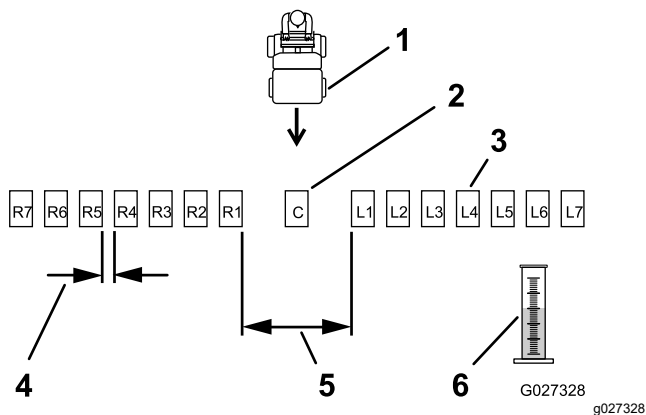
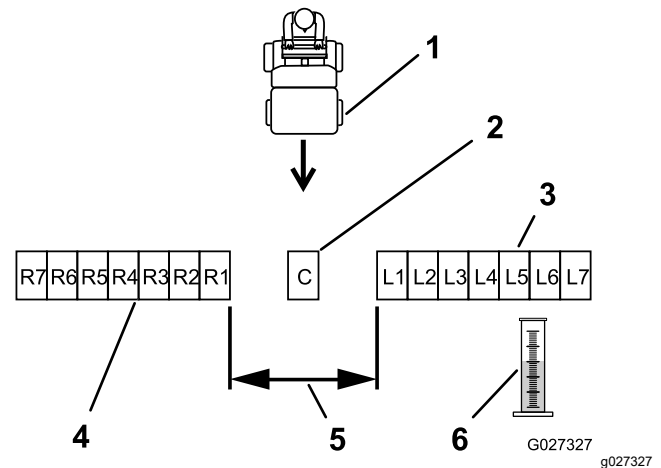

Figure 25
Figure 26
- Place the remaining pans in a straight line as shown in Figure 25 or Figure 26.
Space 6 additional pans, on each side, 12 inches (30 cm) apart (Figure 25).
Place 6 additional pans, on each side, with no gap in between each pan (Figure 26).
6. Label each graduated measuring cylinder to correspond with the distribution pans (such as L2, L1, Center, R1, R2); refer to Figure 25 and Figure 26.